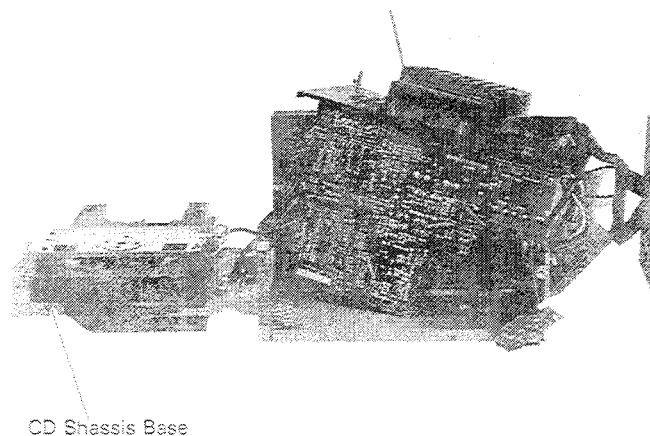

Fig. 4
4. Confirm the CD P.C. board as shown in the Fig.4